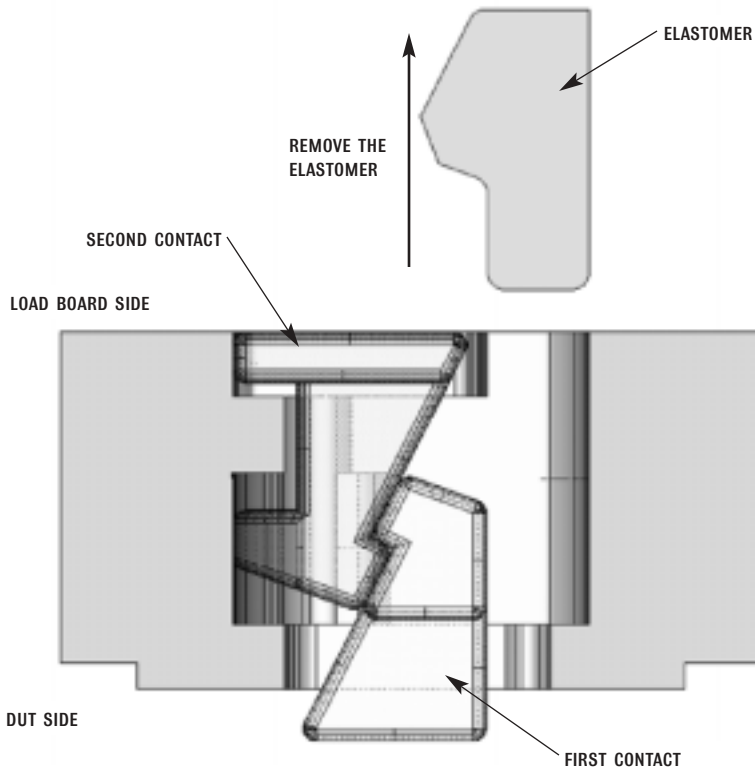

FIGURE 1
1. With the insert in the housing and looking through a microscope from the load board side of the housing, pull the elastomer straight out of the housing with tweezers, FIGURE 1.